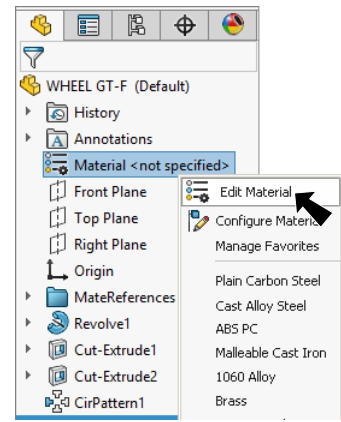

Fig. 22
- Step 1. Right click **Material** in the Feature Manager and click **Edit Material**, Fig. 22.